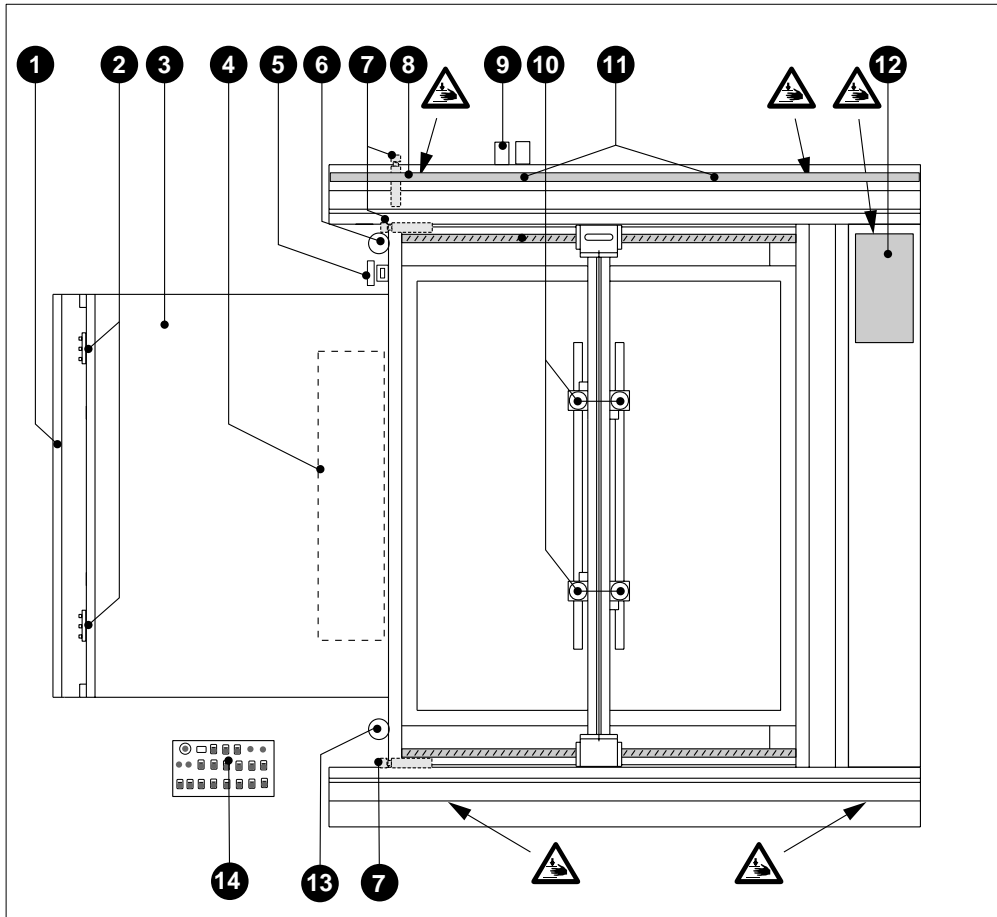

Figure 1-1. **THIEME 1000** flatbed screen printing press
Figure 1-1 shows the major components of the **THIEME 1000**.
**To avoid hand bruises, do not work on parts of the print head or within the print head while the machine is printing! These parts of the machine are labeled with the symbol  (Caution! Hand bruises) (Figures 1-1, 2-2).**